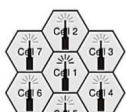

Fig. Q.41.2 Cluster
• **Cluster Size :** Only certain cluster sizes are possible, principally due to geometry of a hexagon and the allowable cluster sizes of 3, 4, 7 and 12. Fig. Q.41.2 shows the cluster of size 7.